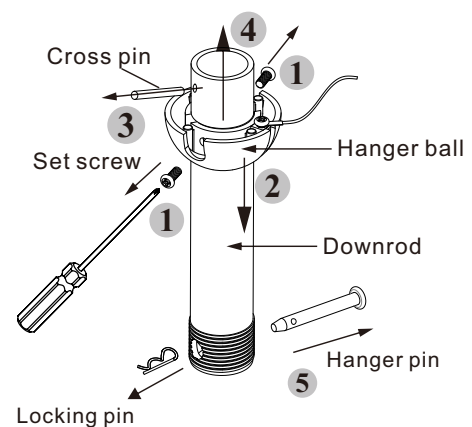

**Figure 10**
**Step 1.** Pass the 120-volt supply wires through the center in the ceiling hanger bracket as shown in (Fig. 10)